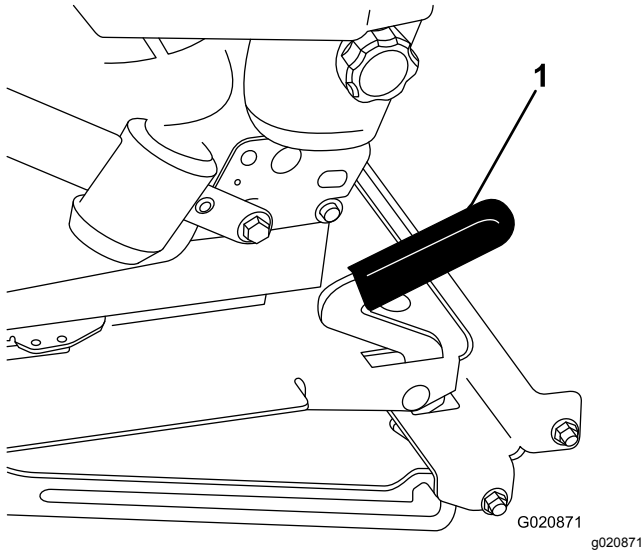

Figure 56
2. Pull the seat latch forward and lift it up to unlatch the seat (Figure 56).